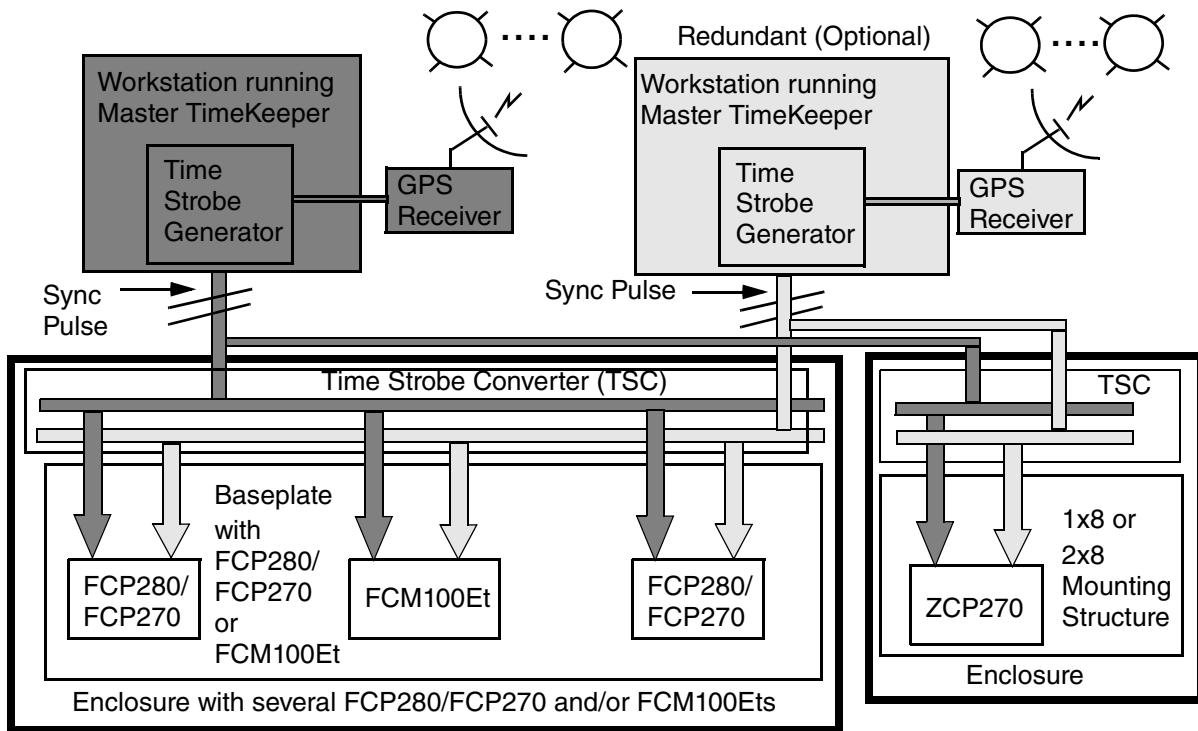

Figure 1-1. Sync Pulse Distribution
An externally sourced Master TimeKeeper (EXT SRC MTK) is a supported workstation with a GPS antenna and receiver. The time obtained by the GPS is in Universal Coordinated Time (UTC) format. The EXT SRC MTK get its date and time from the GPS receiver via a PCI time card in the workstation. The EXT SRC MTK synchronizes its local clock to the time on the PCI time card and distributes time to all stations on the control network. The EXT SRC MTK also provides an accurate time strobe pulse to Sync Pulsed Stations. The time strobe pulse is produced by the PCI time card and allows for the accurate synchronization of all Sync Pulsed Stations (see Figure 1-1).
- ◆ Direct Connect Extended Time Strobe Network (without extenders) - The GPS time pulse is distributed over optical cabling to daisy-chained Time Strobe Converters (see Figure 1-1), which send it to the appropriate controller over copper cables.